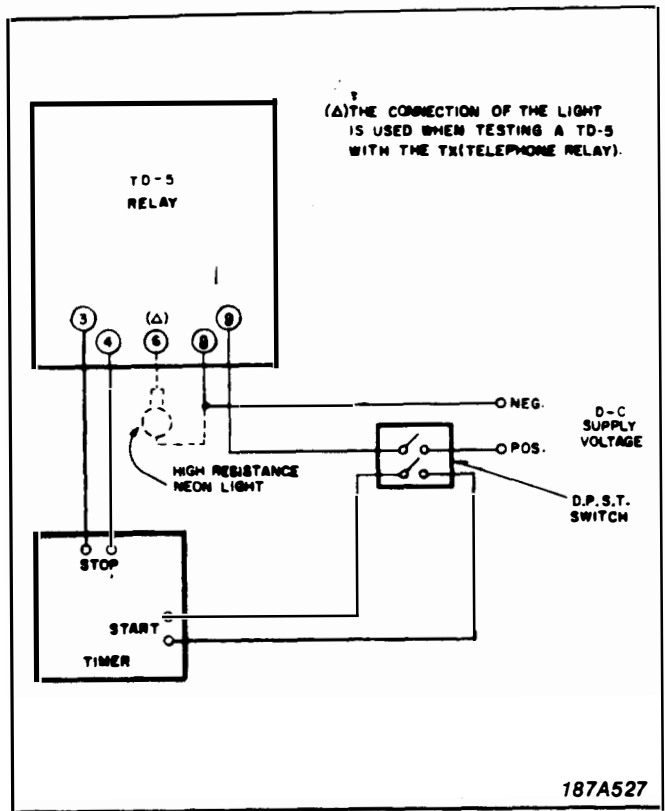

Fig. 4. Test Circuits for Type TD-5 Relay.
The first time delay, as measured with the test circuit shown in Figure 4, taken at  $25^{\circ}\text{C.}$  and rated voltage, will be within four milliseconds of its set-
A timing check at minimum and maximum settings is recommended to insure that the relay is in proper working order. A recommended test circuit is shown in Figure 4. When testing the TD-5 with a TX telephone relay make the dotted connection as shown in Figure 4. The neon lamp will light if the TX relay is operating properly.
2. Check the reference voltage circuit. This is done by measuring the dc voltage across the silicon power regulator, Z. Connect the dc voltmeter positive terminal to the rear terminal of  $R_S$  and the negative terminal to relay terminal 8. Apply rated voltage per the test circuit diagram, Figure 4. The Zener voltage should be between 11.0 and 14.0 volts for 24/32 volt relays, between 21.5 and 25.5 volts for 48/125 volt relays, and between 50 and 59 volts for 250 volt relays.